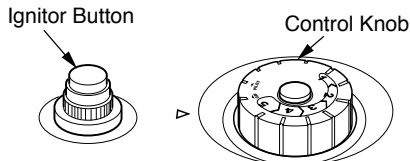

Figure 22 - Control Knob In The OFF Position, Models VP16TA, VN18TA, VP26TA, & VN30TA
3. Turn thermostat control knob clockwise ↻ to the OFF position (see Figure 22 or 23 for your model).
5. Turn thermostat control knob counter-clockwise ↺ to the PILOT position. Press in thermostat control knob for 5 seconds (see Figure 22 or 23 for your model).